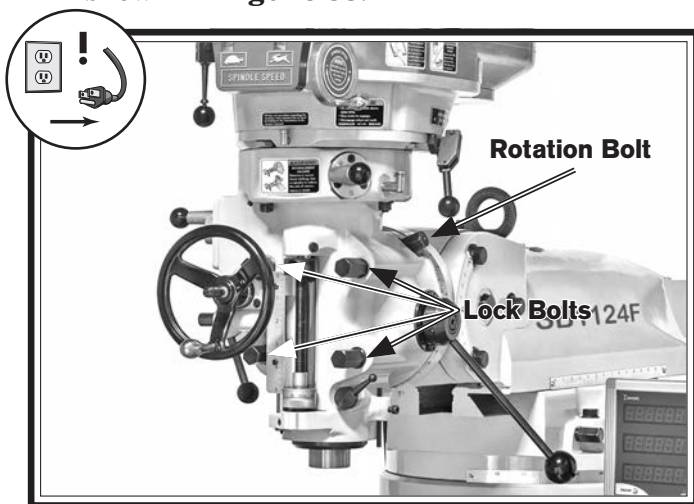

Figure 38. Head rotating controls.
2. Loosen (4) rotation lock bolts on face of head shown in **Figure 38**.